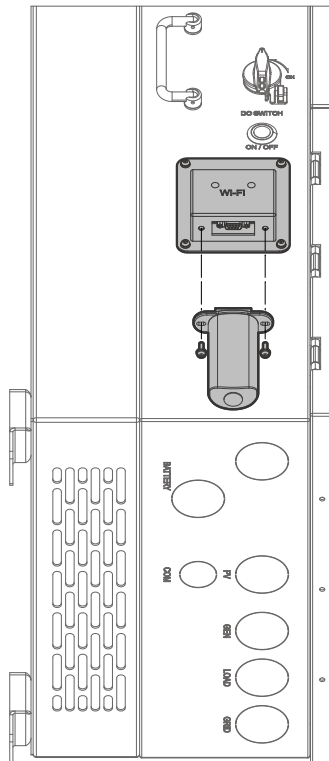

Figure 40: Connecting Wi-Fi dongle to Sol-Ark 15K-2P-N
- Reassemble the dongle housing and plug the dongle into the Sol-Ark. Secure with screws (see figure 40). You will see solid red and green lights after a couple of minutes.